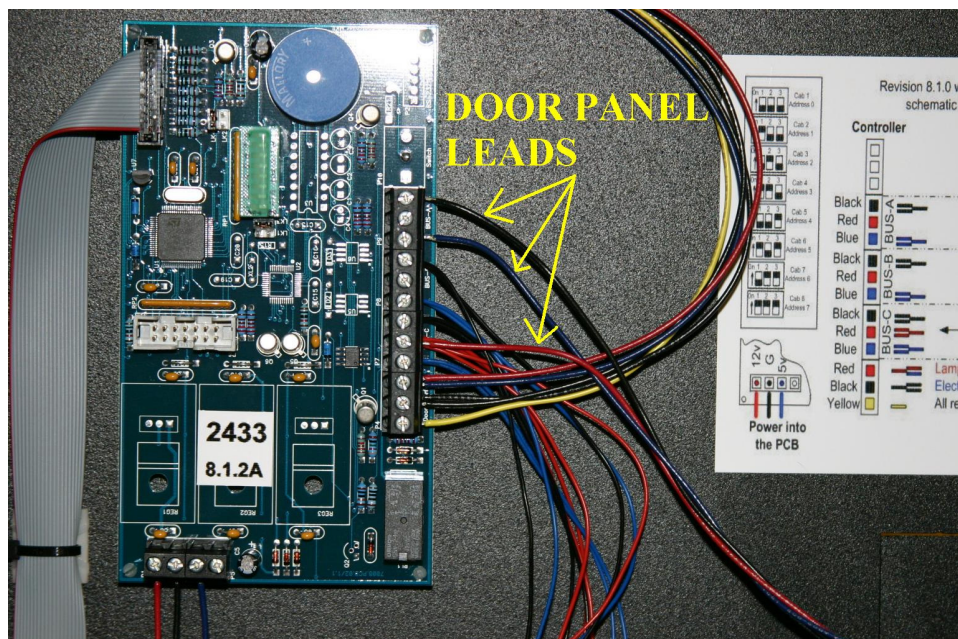

Fig. 34
2. disconnect the door leads from the controller. **(Fig. 34)**
7. connect the door panel leads to the controller. **Ensure all wire leads are secure!** **(Fig. 34)**